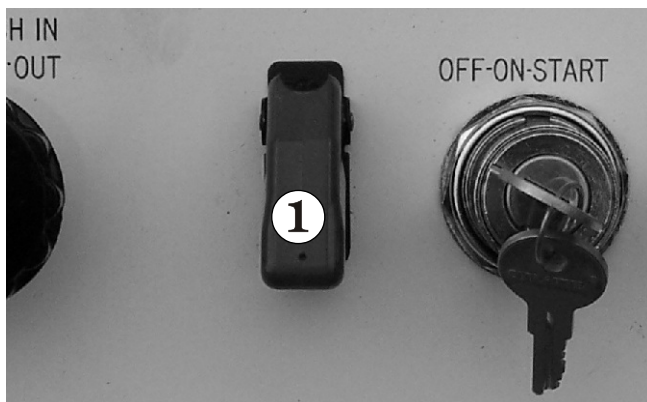

Figure 8.15 - Emergency Stop Switch
Pay particular attention to the Emergency Stop switch ① (see Figure 8.15) to see that it turns the EPV engine off when struck.